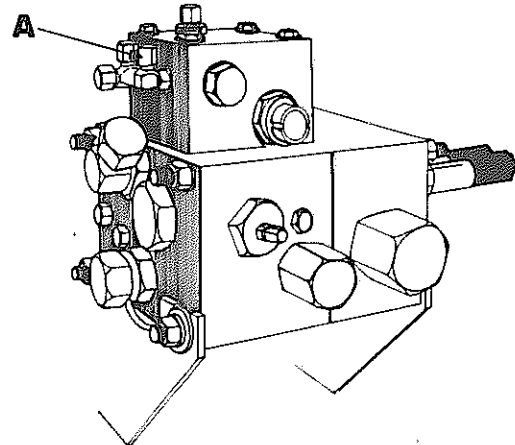

Fig. 51
2. Remove the ¼ inch JIC cap from gauge port (A), see Fig. 51.
3. Connect a 5,000 p.s.i. hand-held gauge onto the retract gauge port (A).